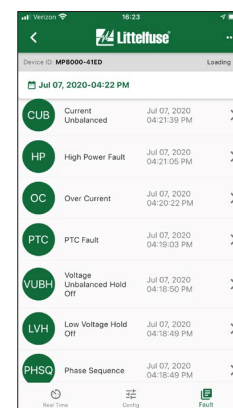

Figure 8
4. Troubleshooting using the MP8000 (See Figure 8):